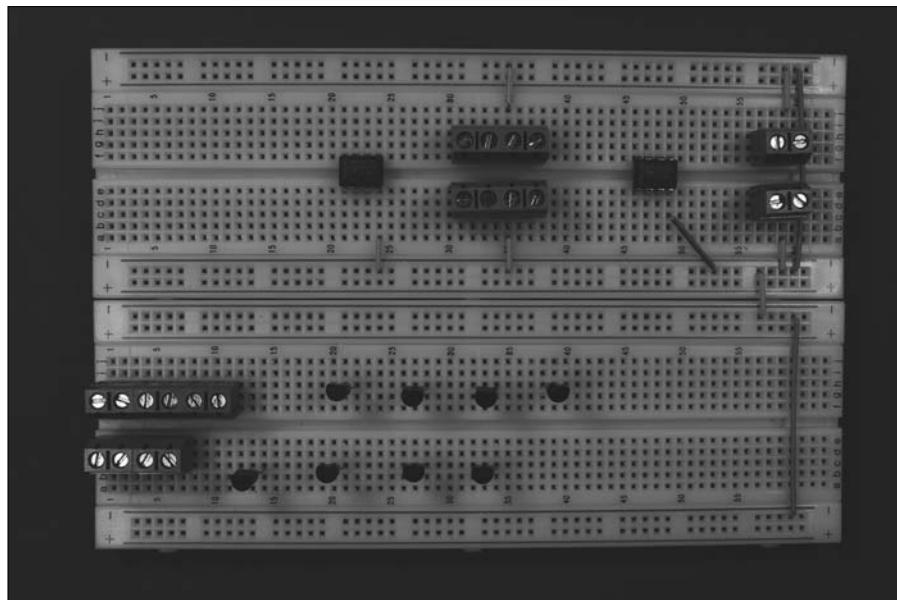

Figure 5-6:
- 3. Insert wires to connect the ICs, the battery pack terminal block, the microphone terminal block, and the potentiometer terminal blocks to the ground bus. Then insert wires between the ground buses to connect them to each other, as shown in Figure 5-6.**